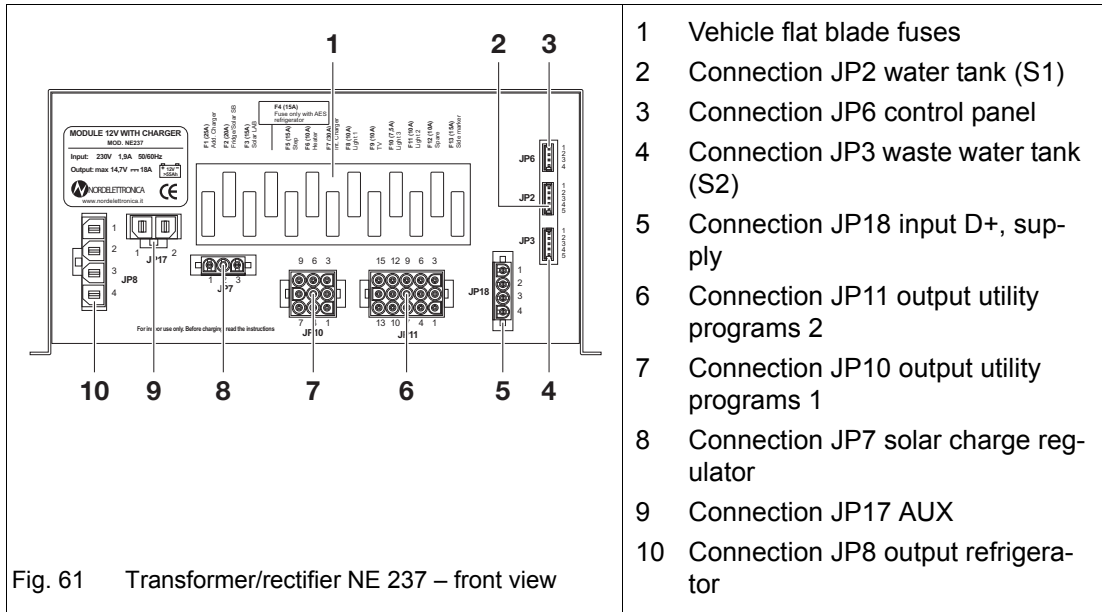

Fig. 61 Transformer/rectifier NE 237 – front view
- The flat blade fuses (Fig. 61/1) protect the different electric circuits.